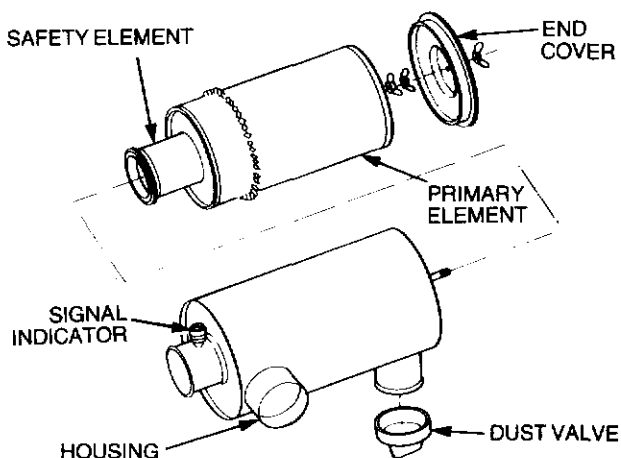

Figure 3-14 Air cleaner elements
- c. Wipe out the air cleaner housing with a clean damp cloth. Remove and clean the dust valve (see Fig. 3-14).